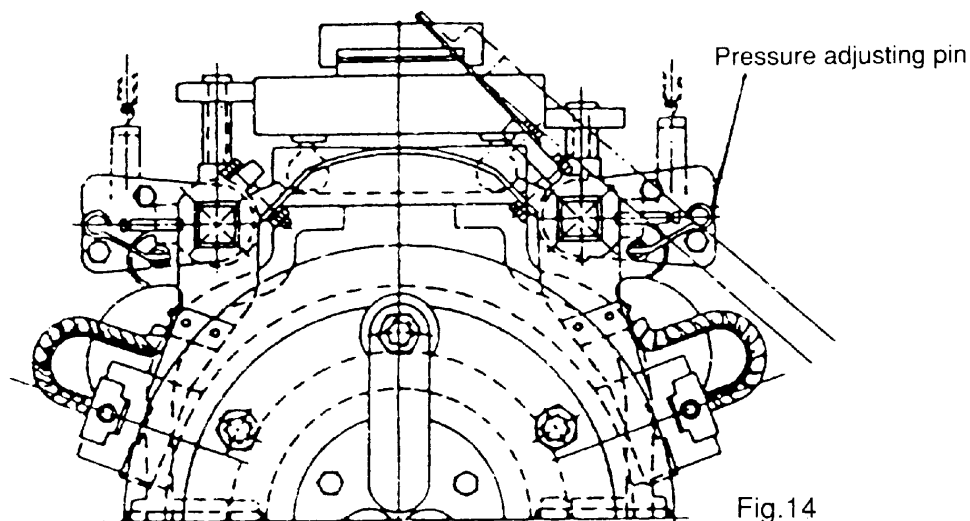

Fig.14
- The brush pressure may be reduced after use, so it is necessary to re-adjust. For adjustment, please turn adjusting screw, pressure adjusting pin or pressure adjusting plate as shown in Fig. 14 to obtain the correct tension ($=0.23 \times \text{brush cross sectional area in cm}^2$) $\pm 10\%$ kg.